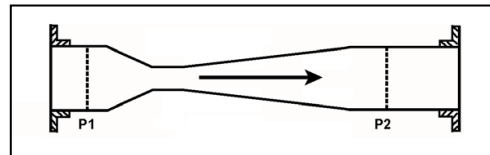

Fig.5. Convergent pipe
5.1 Determine the coefficient of discharge for different flow rates viz., 1/4th, 1/2th, 3/4th, and full opening in a pipe network. The testing apparatus for evaluating convergent losses is depicted in Fig. 5.